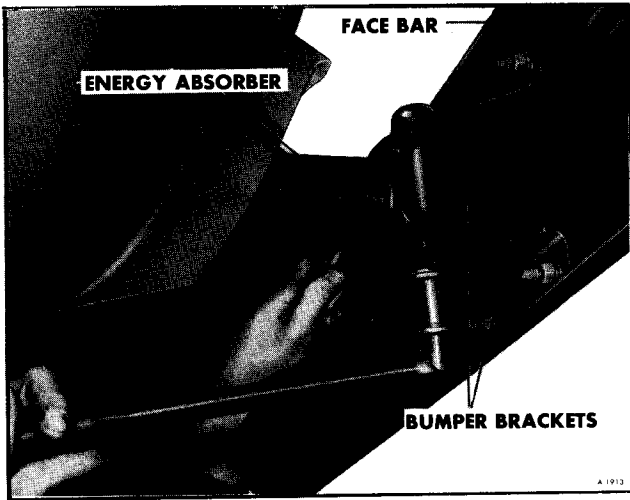

Figure 3—Removing Rear Bumper
1. Remove rear bumper by removing both bumper bracket thru bolts as shown in Figure 3. Then remove face bar assembly.